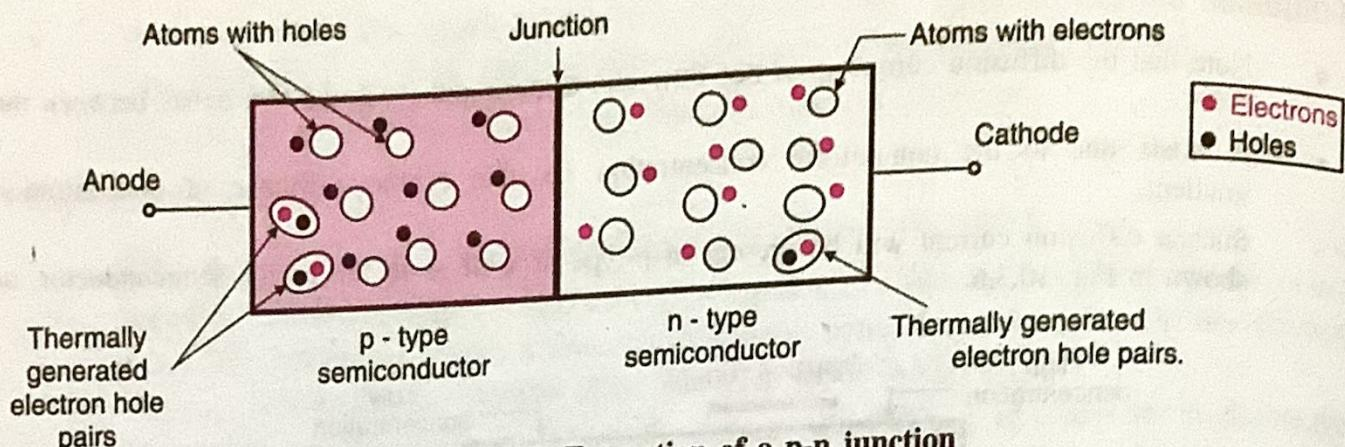

Fig. 10.4.1 : Formation of a p-n junction
- As shown in Fig. 10.4.1, a p-type semiconductor and an n-type semiconductor are joined together with the help of a special fabrication technique to form a p-n junction.